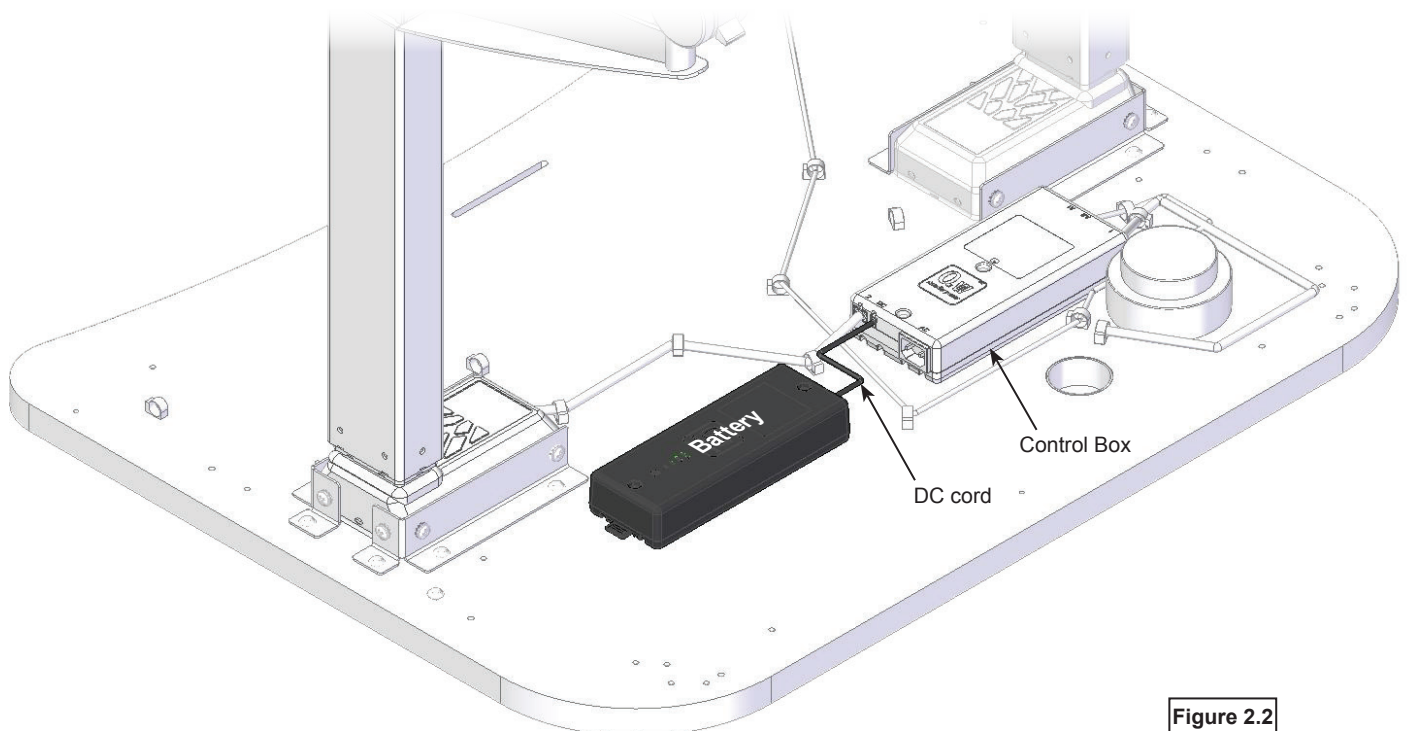

Figure 2.2
4. Plug the battery cable into the battery. **Figure 2.2.**